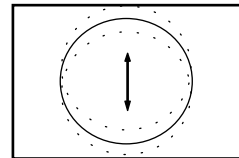

Fig. 2
- Adjust the vertical location to obtain picture centering (Fig.2).